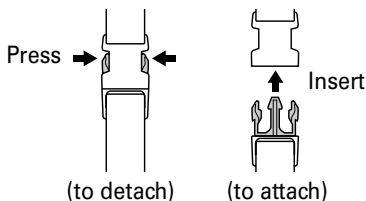

Fig. 15
- (2) To detach the gardening appliance from the hanger belt, hold the main pipe with one hand and press the release mechanism of the hanger belt from both sides as shown in Fig. 15. To attach the gardening appliance, insert from below, making sure that it is properly attached.